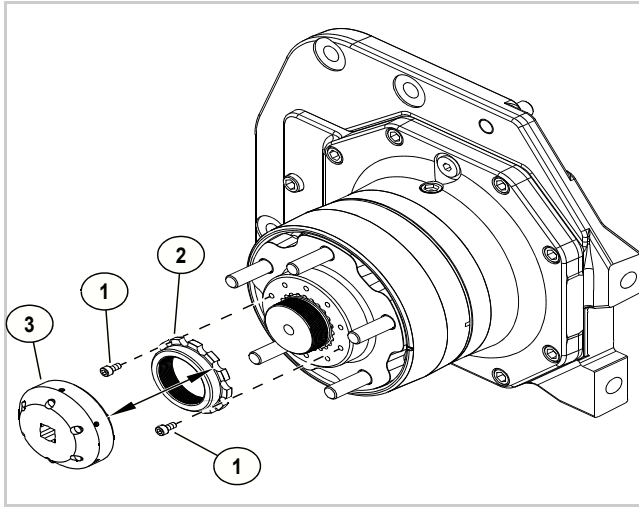

Fig. 23 (26419)
- Attach the mounting bar (2, Figure 23) to the drive unit sub-assembly (3) with the fasteners (1).